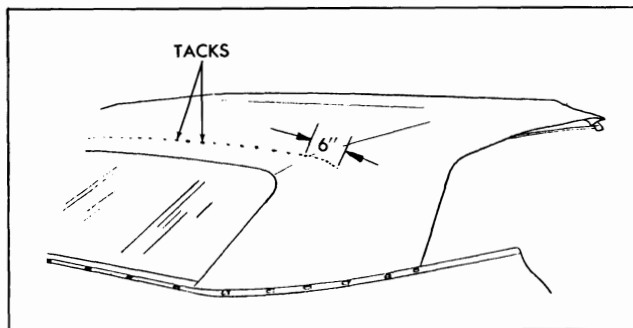

Fig. 21-33 Tacks Outboard of Seams
**IMPORTANT:** Tacks must be installed along a straight line in center of rear bow. (See Fig. 21-33). Tacks outboard of deck seams should be restricted to distance not to exceed 6", which is length wire-on binding extends past seam (Fig. 21-33).